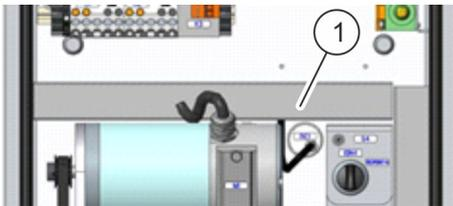

Fig. 23: Opening the cable duct
3. ▶ Open the cable duct (Fig. 23/1).